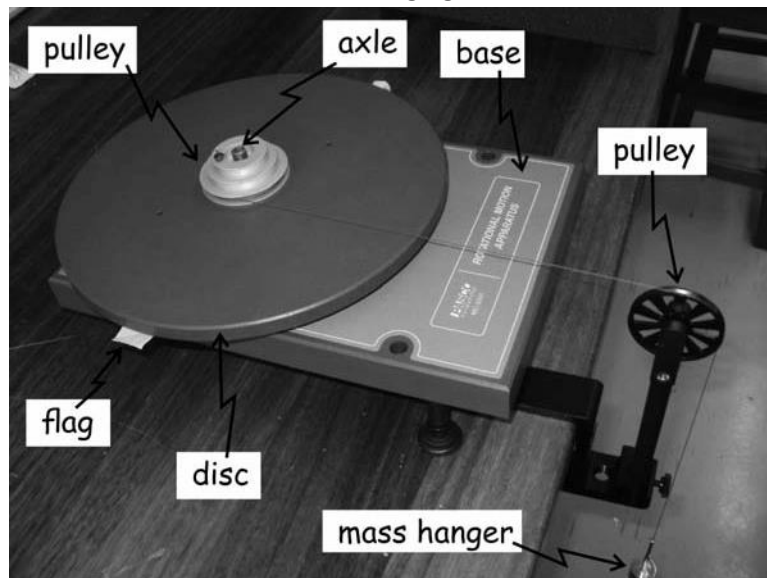

Figure1: The rotational inertia apparatus
- A base onto which the disc, with a pulley on top of it, is mounted horizontally with an axle - see **figure 1**.
- Another separate pulley that can be mounted with a clamp on the edge of the laboratory work surface - the black pulley on the right-hand side of **figure 1**.